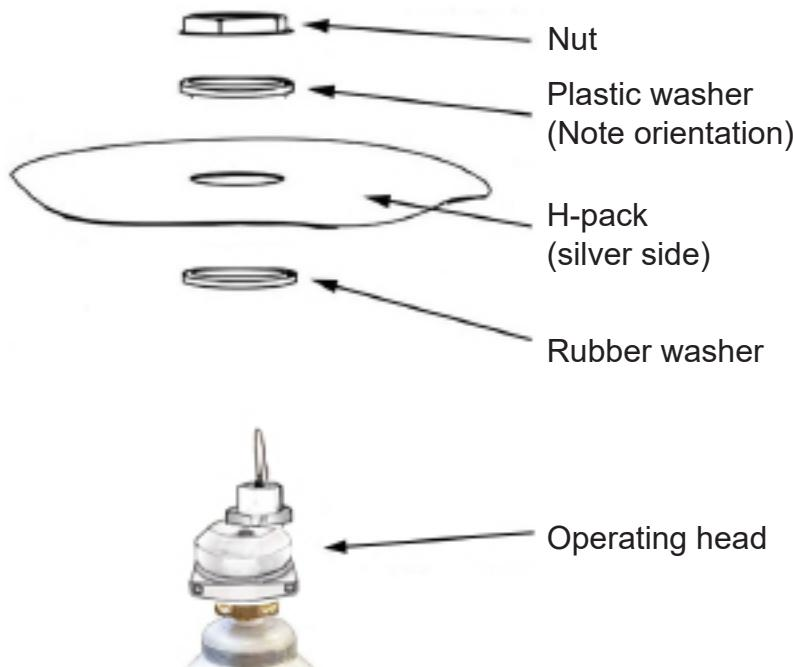

FIGURE A7-12
- 2.20 Remove the operating head nut and washers. Insert the H-Pack onto the operating head and replace the washer and nut. Refer to FIGURE A7-12.